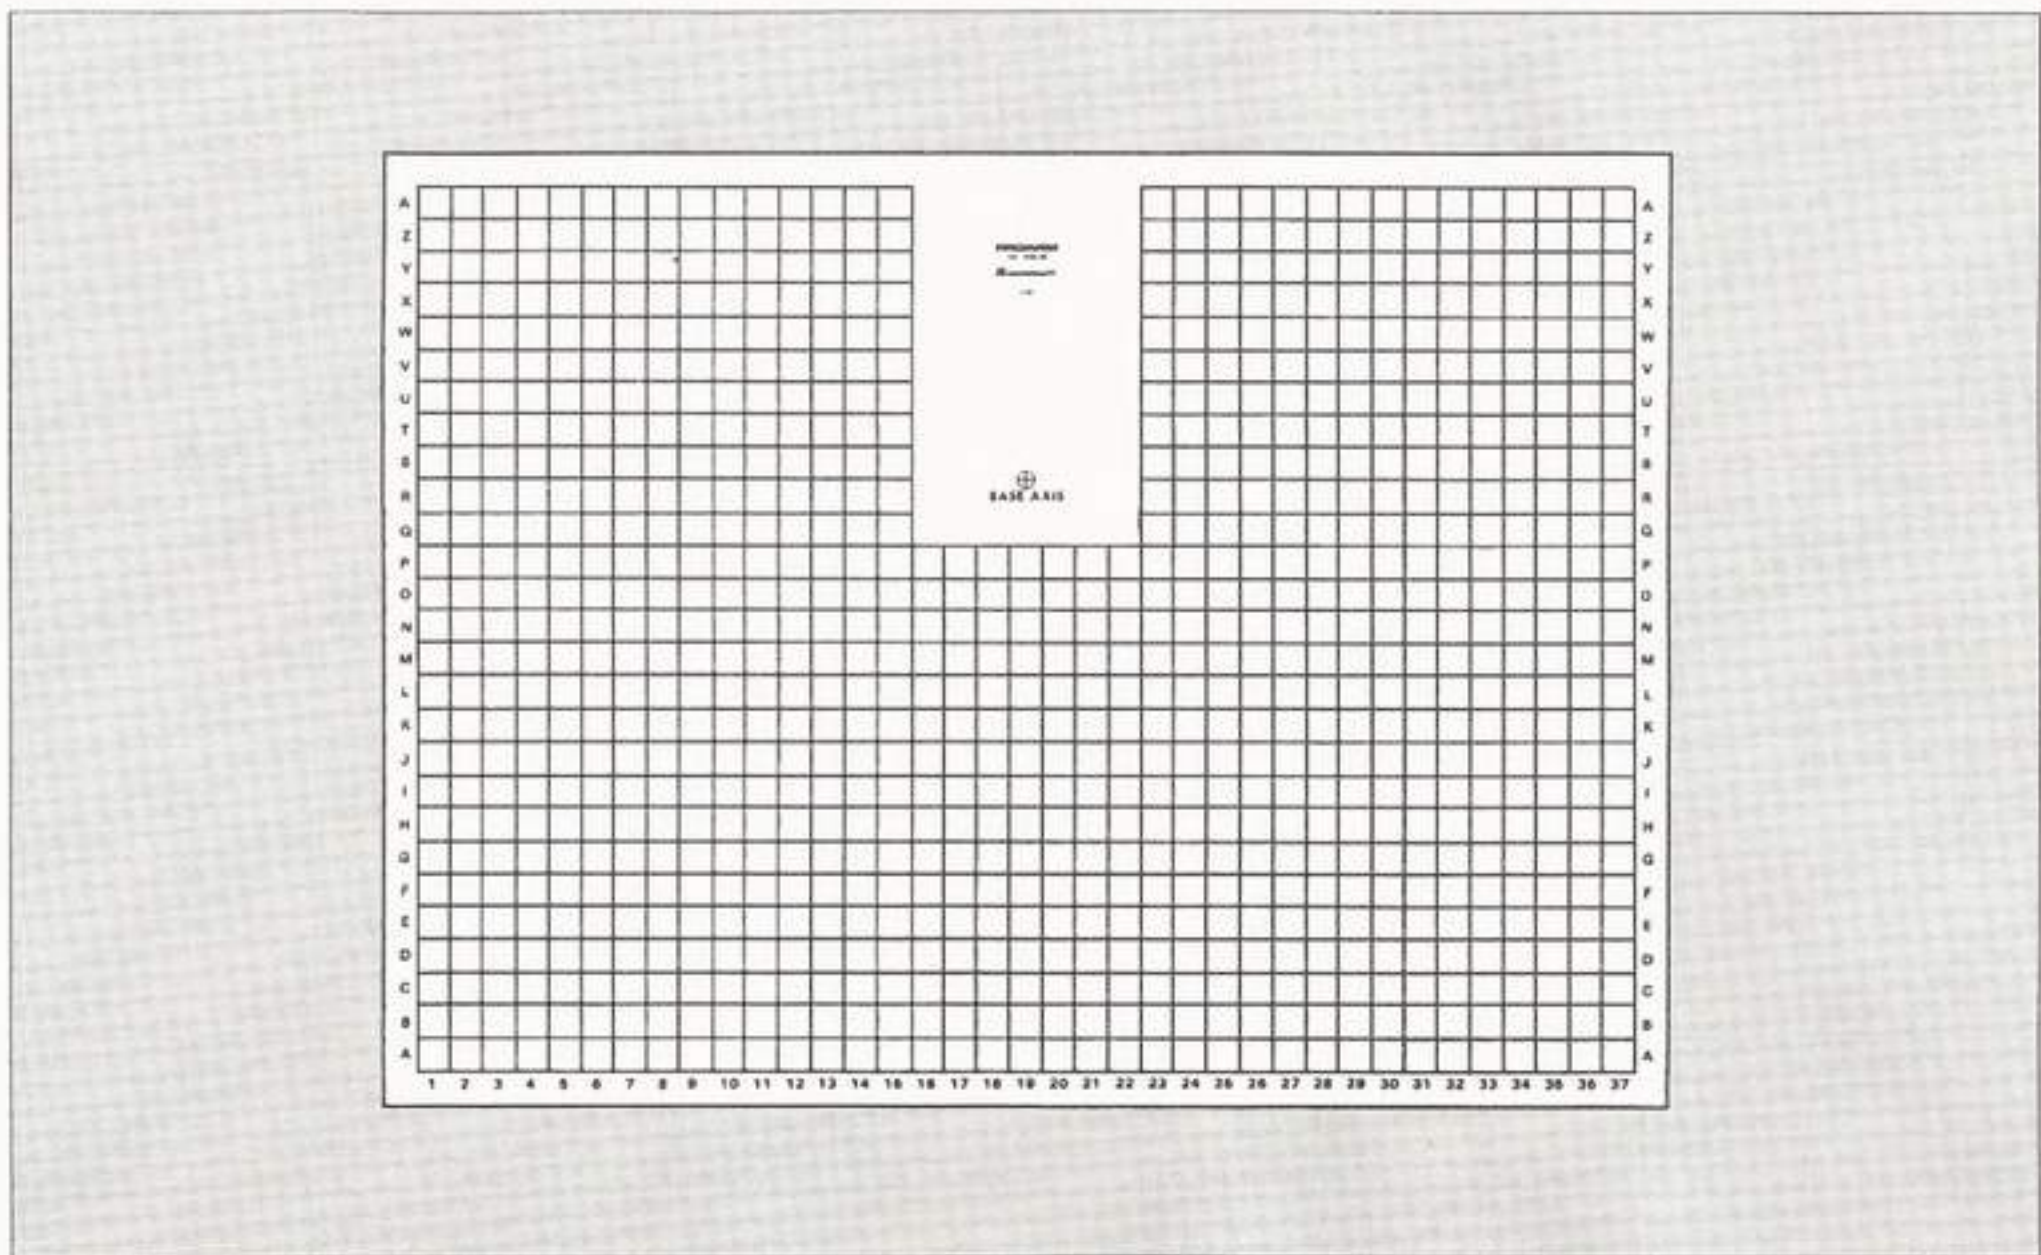

Fig. 84: Second Placement Position
- ___ l. The arm will next return, pick up the block, and place it on the other side of the grid sheet. Observe and record the exact location of this second placement position of the block, by drawing a circle on the corresponding portion of the grid shown in Fig. 84.
- ___ p. Measure the difference, if any, between the first and last placements, as recorded in Fig. 84.
Placement difference (Fig. 84) = _____ inches